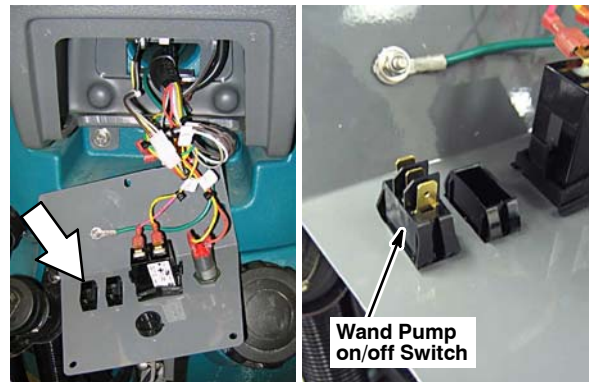

Fig. 8
13. Remove the lower switch panel and install the wand pump on/off switch as shown (Figure 8). Secure wiring with supplied wire-tie.